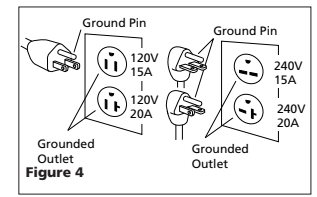

Figure 4
- This product is for use on a nominal 120 or 240 volt circuit and has a grounding plug that looks like the plug illustrated in Fig. 4. Make sure the product is connected to an outlet having the same configuration as the plug. This product must be grounded.
1. If the plug on the electrical cord of the unit is unfamiliar to you or will not fit your particular receptacle, Figure 4 will help you understand why by illustrating the different plugs and the voltages they are to be used with.
1. Este producto está diseñado para conectarse a circuitos nominales de 120 ó 240 voltios y tiene un enchufe similar al de la Fig. 4. Cerciórese de conectarlo a un tomacorrientes diseñado para el enchufe. Este producto debe conectarse a tierra. En caso de que ocurriese un cortocircuito, la conexión a tierra reduciría el riesgo de choque eléctrico al ofrecerle un cable de